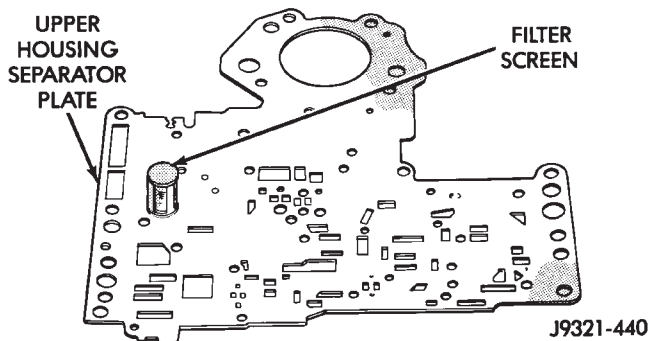

Fig. 69 Separator Plate Filter Screen Installation
- (2) Install filter screen in upper housing separator plate (Fig. 69).